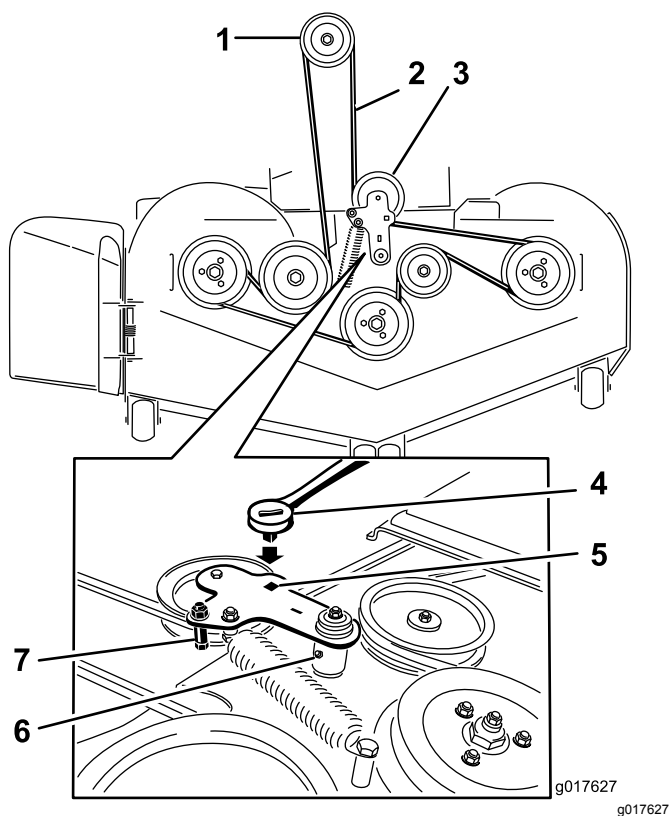

Figure 75
5. Use a ratchet in the square hole in the idler arm to remove tension on the idler spring (Figure 75).
7. Remove the belt guide on the spring-loaded idler arm (Figure 75).
9. Install the new belt around the mower pulleys and the clutch pulley under the engine (Figure 75).
10. Install the belt guide on the idler arm (Figure 75).
11. Using the ratchet in the square hole, install the idler spring (Figure 75).